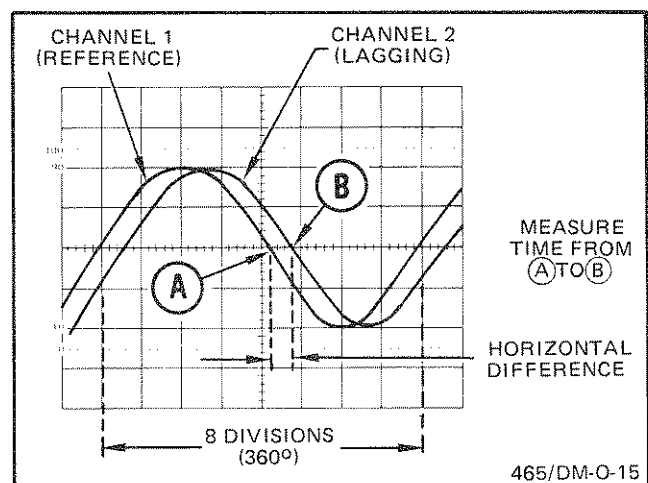
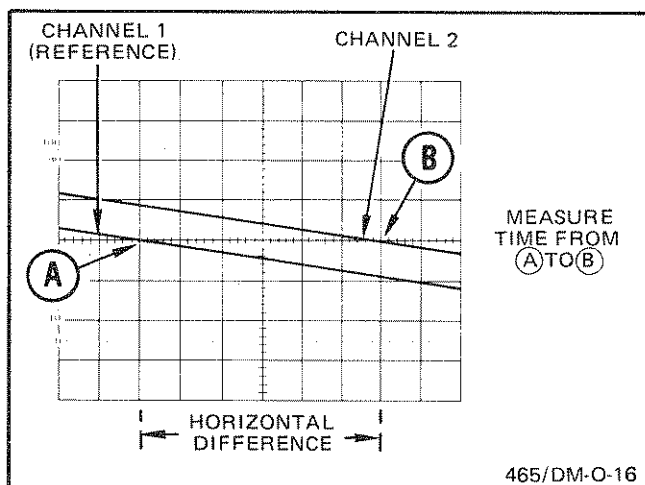

Figure 18. Phase difference.
Figure 19. High-resolution phase difference.
9. Position the displays and adjust the SEC/DIV Variable control so that one reference-signal cycle occupies exactly 8 horizontal graticule divisions at the 50% rise-time points (see Figure 18). Each division of the graticule now represents  $45^\circ$  of the cycle ( $360^\circ \div 8$  divisions), and the horizontal graticule calibration can be stated as  $45^\circ$  per division.
**EXAMPLE:** The horizontal difference is 0.6 division with a graticule calibration of  $45^\circ$  per division as shown in Figure 18.
**EXAMPLE:** If the sweep rate were increased 10 times with the magnifier (X10 Magnifier out), the magnified horizontal graticule calibration would be  $45^\circ/\text{division}$  divided by 10 (or  $4.5^\circ/\text{division}$ ). Figure 19 shows the same signals illustrated in Figure 18, but magnifying the displays results in a horizontal difference of 6 divisions between the two signals.